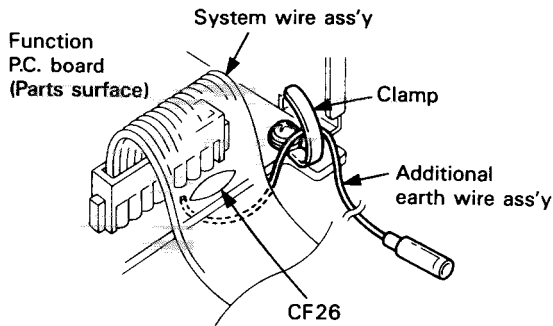

Fig. 5
- ⑥ The earth wire ass'y which has been back-soldered in Item 5 above is clamped on the function P.C. board parts surface as indicated in Fig. 5 below.